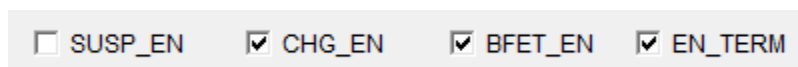

Figure 15: Charge Mode Configuration
13. Set charge mode configuration (see Figure 15).